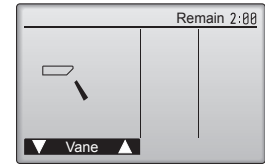

Fig. 7-6
- ① Check the auto vane with the **F1** **F2** buttons. (Fig. 7-6)
- ② Press the **☰** button to return to "Test run" operation.
- ③ Press the **⏻** button.